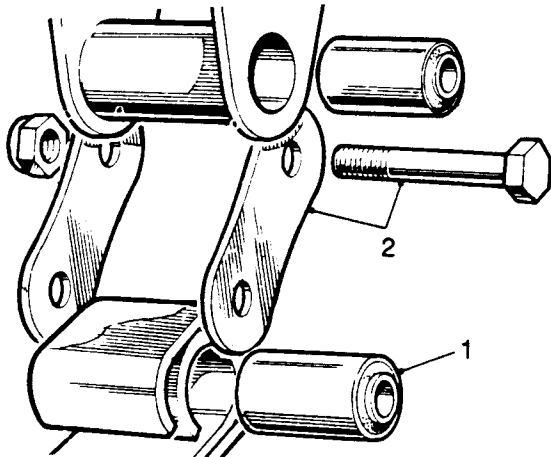

Fig 15.2
- (4) Refer to Fig 15.2. Remove the fixings and withdraw the shackle plates (2) from the chassis frame.
- (5) Press out the bushes (1) from each end of the spring. It is recommended that special tool MF109 is used for this operation.